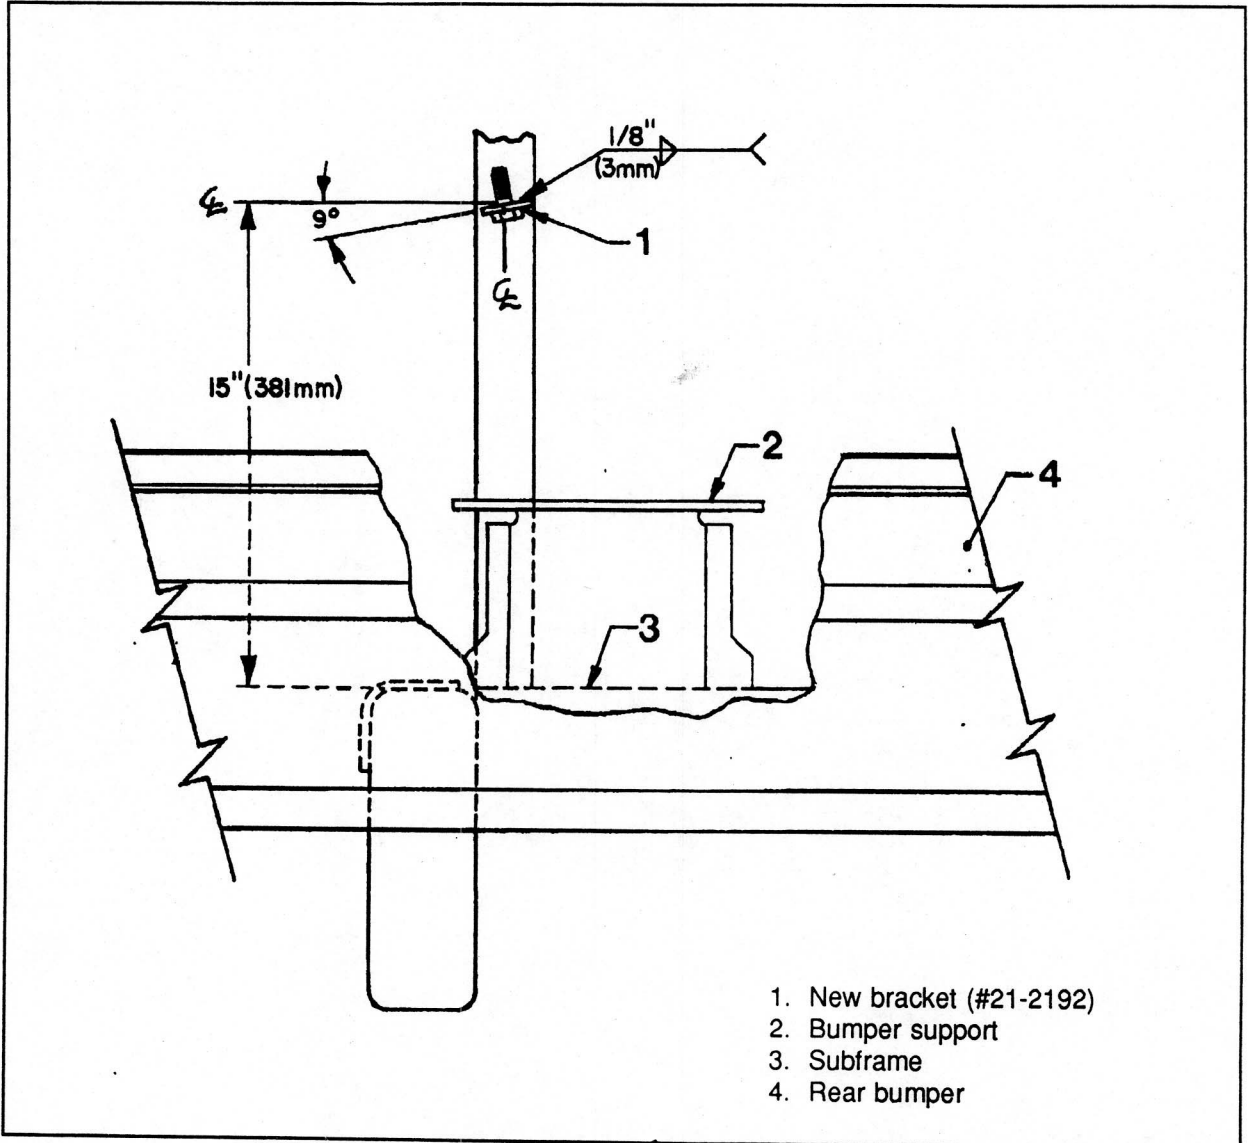

Fig. 2
6. Using locking pliers, seat new bracket (#21-2192) on vertical post as illustrated in figure 2, then weld it with a "MIG" semi-automatic welding machine using the GMAW (gas metal arc welding) process set to the following parameters: